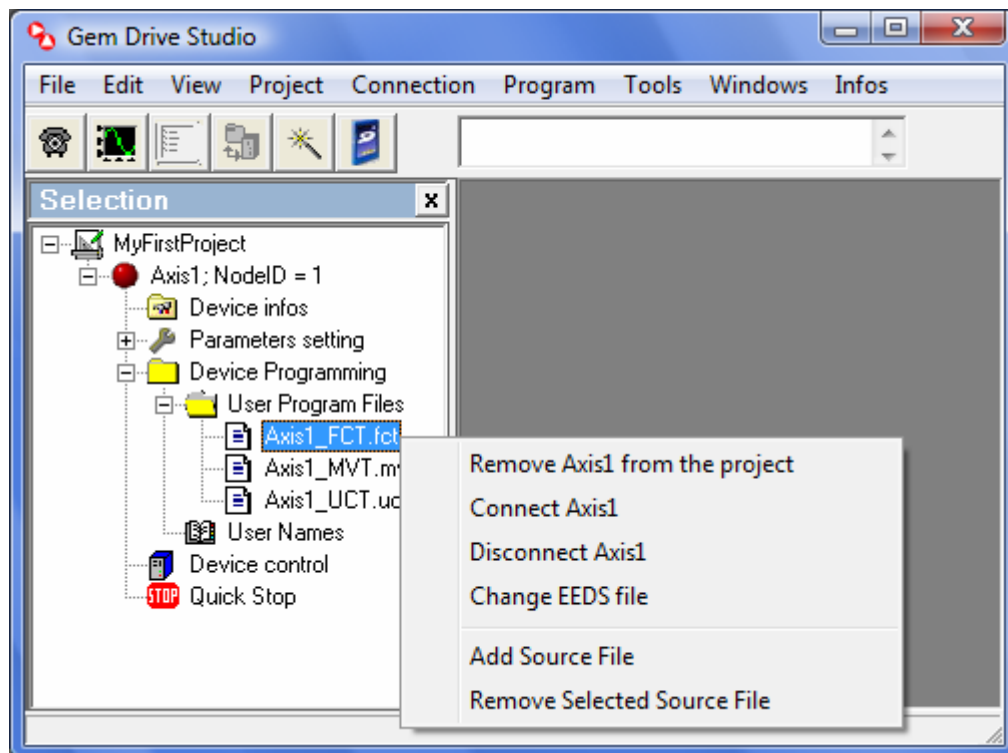

Figure 4-6: Add/Remove a file to/from a project.
1. Right click in the project navigator window and then select “Add Source File” in the popup menu (see Figure 4-6)
1. Right click in the project navigator window and then select “Remove Selected Source File” in the popup menu (see Figure 4-6) or